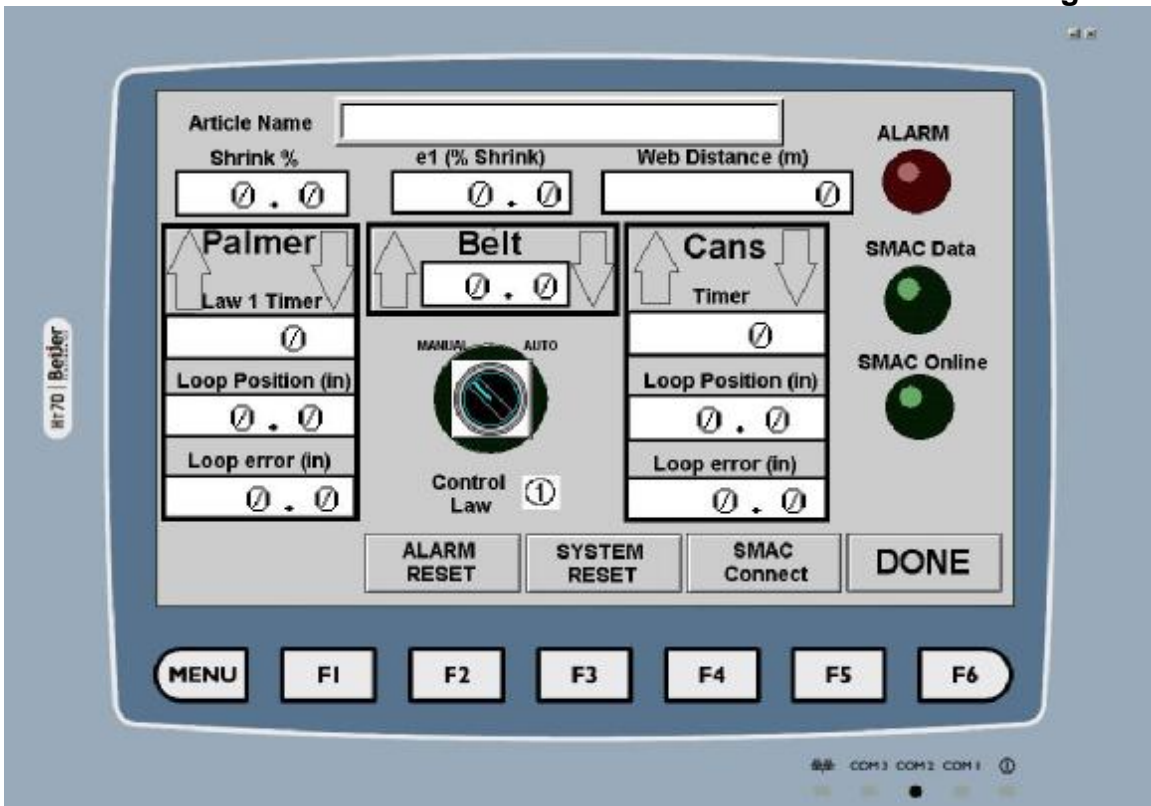

Figure 3
- c. For detailed information on the actual control of the range, the operator selects the **Diagnostic** button. This button switches to the **Diagnostics Screen** (figure 3).